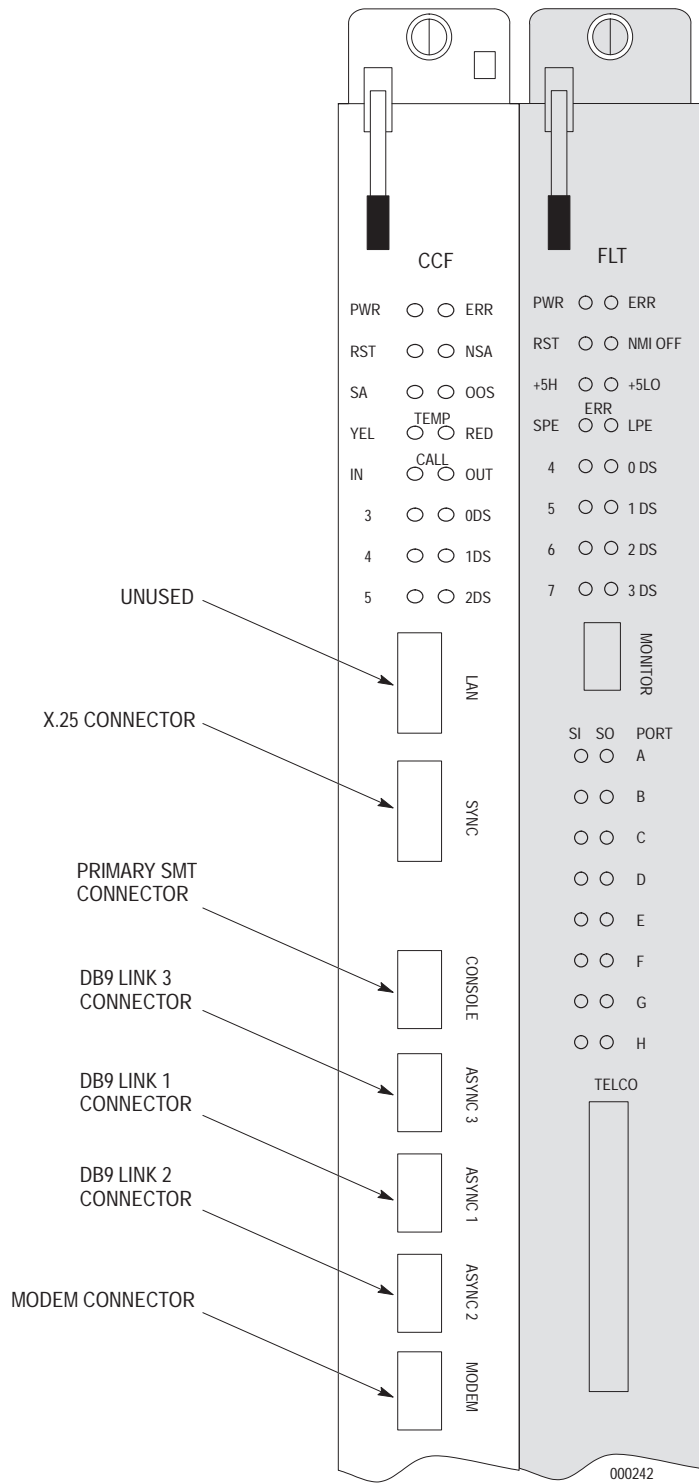

Figure 4-5. X.25, SMT, Asynchronous, and Modem Connectors on the CCF Card.
The CCF card provides the data-bus and control-bus connections. Cables for the X.25, modem, and SMTs are connected to the CCF card. Make sure to connect the correct cable to the correct connector on the CCF card. Refer to the “Installing a Modem” section, page 4-11, for information about how to install a modem. Figure 4-5 shows the CCF card with the pertinent connectors identified.
3. Plug the other end of the cable into the MODEM connector on the CCF card (Figure 4-5 on page 4-9).